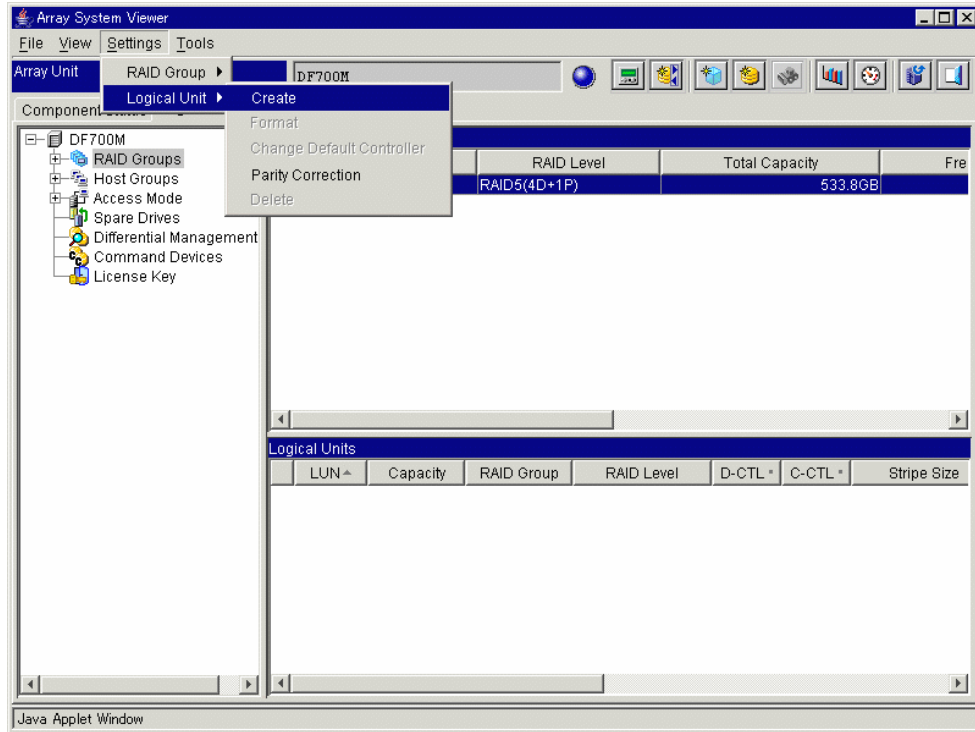

Figure 5.12 Array System Viewer - Logical Unit
3. On the **Settings** menu, select **Logical Unit** and click **Create**, or click . See Figure 5.12.